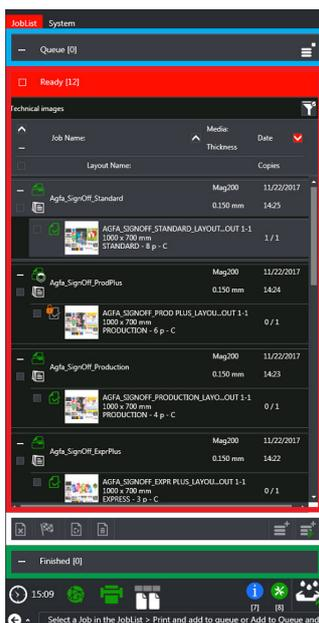

Fig.6-16 Job List Pane
- **Ready:** a list of print tasks, ready to print (outlined in red in Fig.6-16)